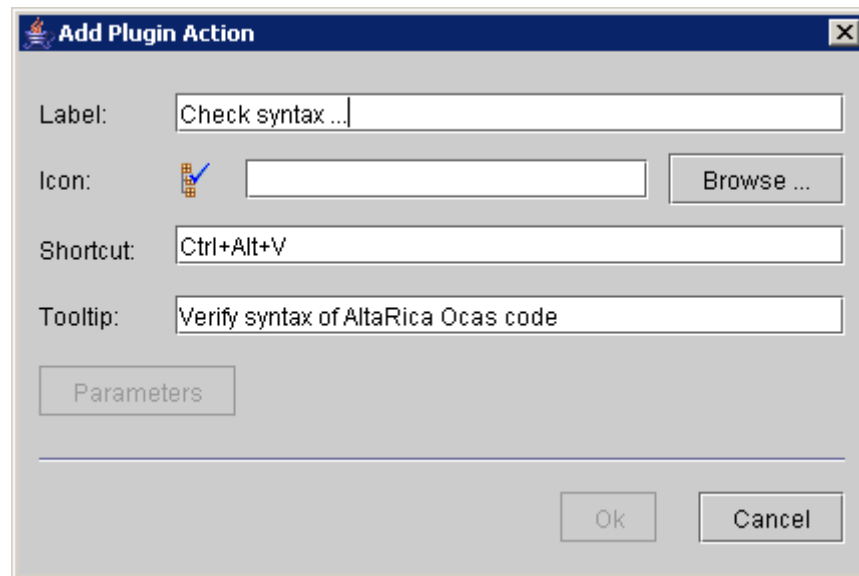

Figure 194 : Add a plugin action
- ♦ Click on the **Add** button; the following window then appears (Figure 194):